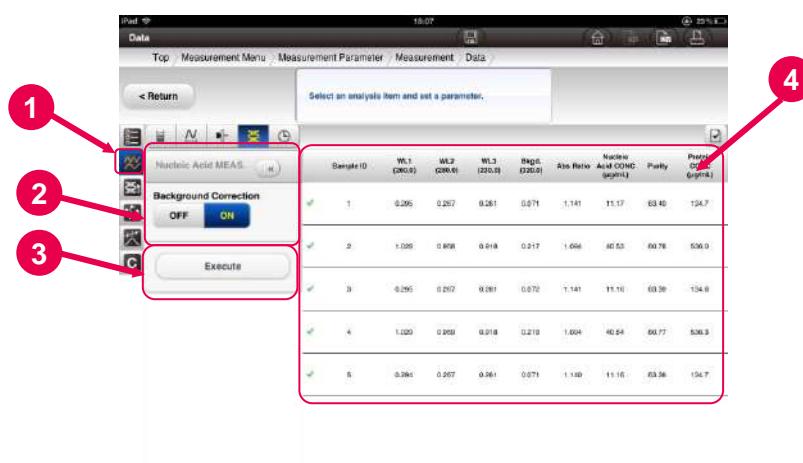

Fig. 5-39 Nucleic Acid Measurement Conditions Setting Parameters Window
- (1) To change the nucleic acid measurement conditions, press the [Nucleic Acid Measurement Conditions Tool Icon] button .
- (2) The setting parameters for the nucleic acid measurement conditions (Fig. 5-39) are displayed. See 4.2.3 “Measuring Nucleic Acid Specimens” for the statistical calculation setting parameters.
- (3) Set up the items and press the [Execute] button.
- (4) The results of the date processing are displayed.